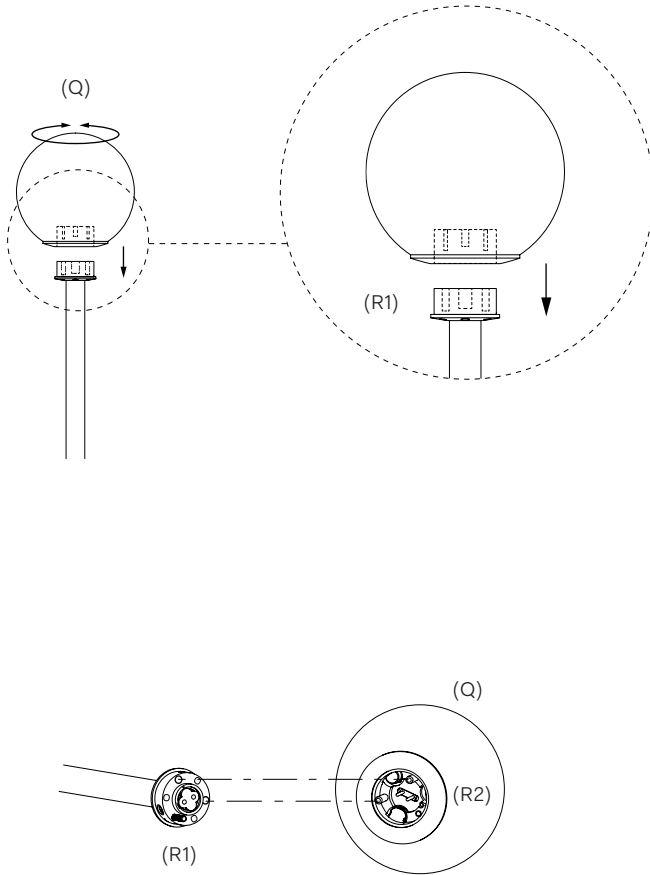

Fig. 17
Again, on a soft surface, using gloves take, secure the Small Glass Sphere 1 (Q) onto the Lamp Body 2 (R). Carefully rotate the Small Glass Sphere 1 (Q) onto the Small Male Glass Connector (S) until the internal location pins are aligned. Gently push the Small Glass Sphere 1 (Q) onto the pins until the outside faces of the Small Female Glass Connector and Small Male Glass Connector (S) sit flush. Secure the Small Glass Sphere 1 with the supplied M2×8 screw, ensuring it is tight. See Fig.16 and Fig.17.